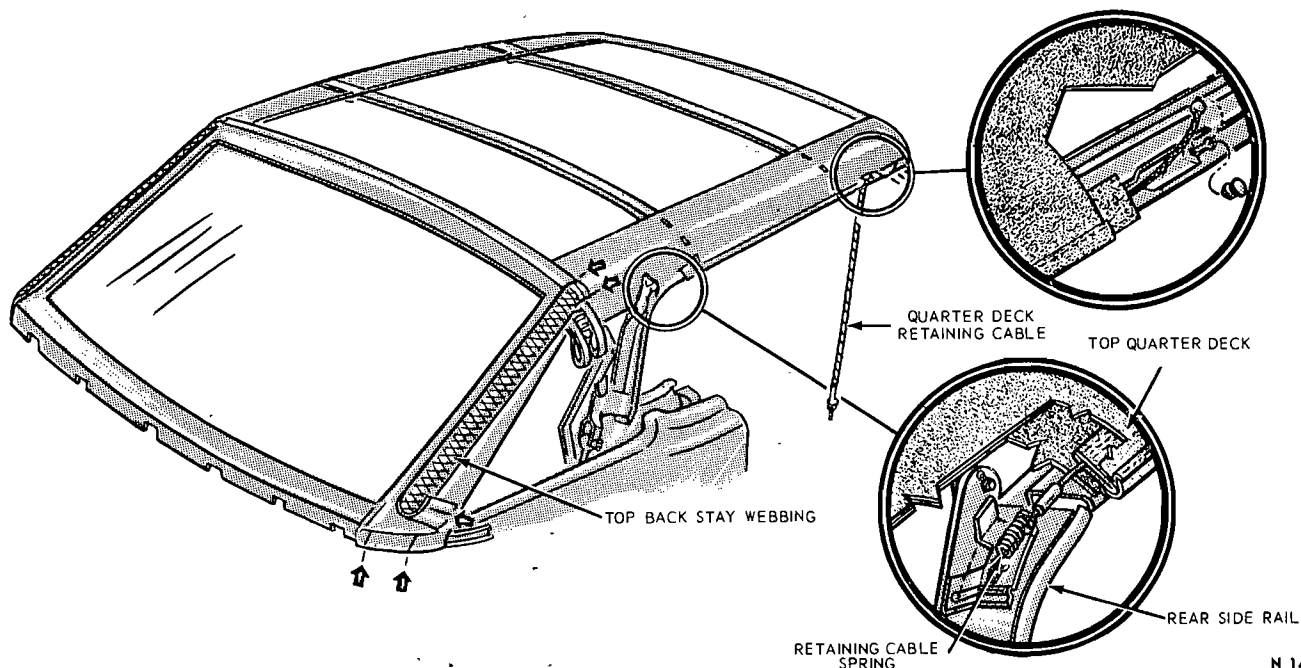

FIG. 14—Top Stay Pad Webbing and Quarter Deck Retainer Cable Attachments—Mustang
9. Disengage the top material hold-down cables from the rear side rail attachment and pull the cables forward until each is removed from the retaining sleeve (Fig. 14).
16. Detach the top material from the No. 4 bow. Peel the top material back to expose the No. 4 bow and mark the existing top back stay webbing location at the No. 4 bow and the tacking strip (Fig. 14).
8. Position each top back stay webbing on the belt center tacking strip and retain it with staples (Fig. 14).
12. Position the top back stay webbing on the No. 4 bow aligning marks and secure it with staples (Fig. 14).
18. Route the quarter deck retaining cables through the hold down sleeves in the top material and retain each cable at the rear (loosely) with the attaching nut and washer (Fig. 14).